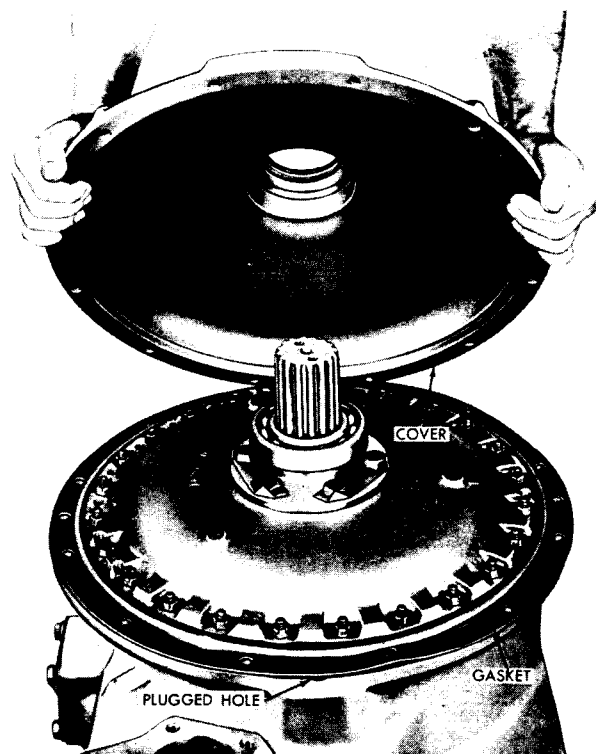

Fig. VII-32. Installing transmission front cover
(4) If oil seal 5 (A, foldout 7) was removed from front cover 7, install a new seal. Press the seal, spring-loaded side first, into the bore of the cover. Press the seal to 0.230 to 0.290 inch (5.84 to 7.36 mm) below the bore chamfer.
(5) Install the gasket onto the flange of the converter housing (fig. VII-32).
(6) Install the transmission front cover, positioning the thick section of the cover flange toward the bottom of the transmission (fig. VII-32).
(7) Install 12 bolts with their heads toward the front of the transmission. Install 12 nuts and lock washers onto the bolts.
(8) If the transmission is equipped with an input flange that requires shims, select the proper combination of shims 22 (A, foldout 7) to allow 0.005 to 0.009-inch (0.127 to 0.228 mm) space between the retainer washer and the shim pack. (Refer to sect. IV, para 7b for installation instructions for interference-fit flanges.)